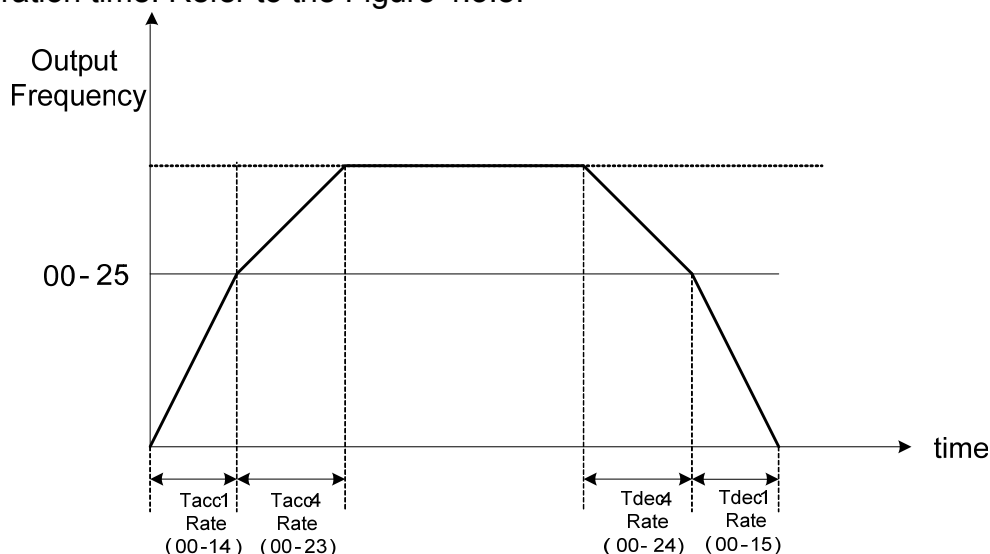

Figure 4.3.8 Automatically switch acceleration / deceleration
- When the output frequency reaches set value of 00-25, it will follow the set frequency of 00-25 to automatically switch the first and the fourth acceleration / deceleration time. Refer to the Figure 4.3.8.